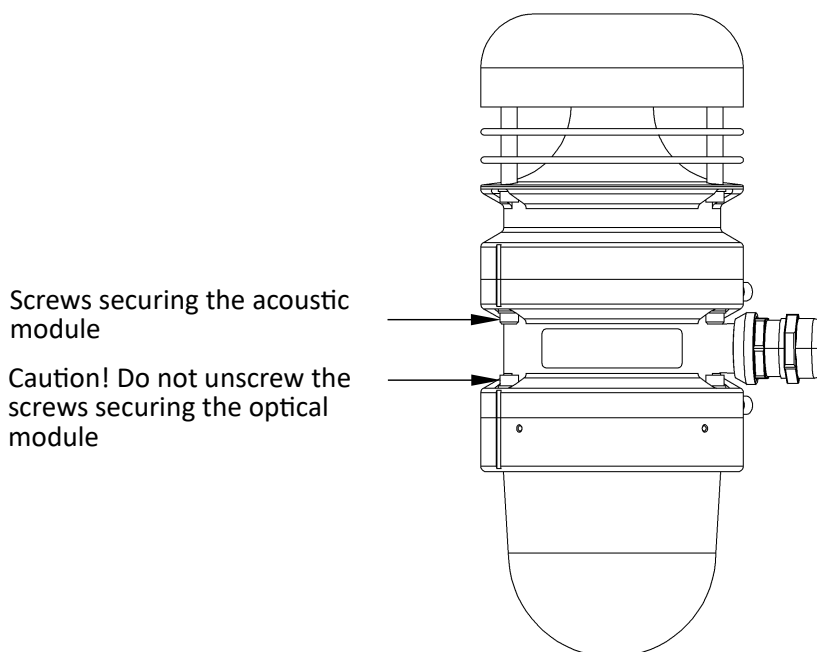

Figure 13: Securing screw
-  Unscrew the screws securing the acoustic signal device.(see Figure 13) use the No. 4 Allen socket wrench with a ball tip.